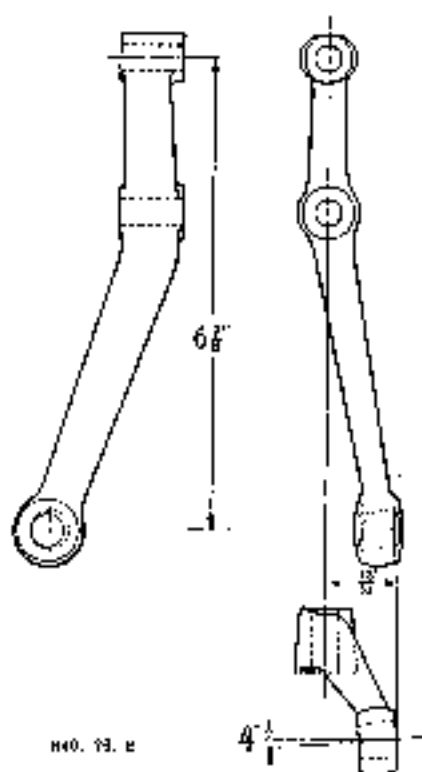

Fig. 7. Checking the alignment of a swivel arm (method 2)
(1) Place a rule along the brake back-plate so that it projects alongside the arm. The distance between the centre of the ball pin seating hole and the rule should be  $\frac{3}{8}$ -in. plus or minus  $\frac{1}{16}$ -in.
(2) Place a straight-edge across the centre of the ball holes used to secure the arm to the swivel axle. The distance between the straight-edge and the lower face of the arm machined face against which the ball pin nut fits—should be  $\frac{3}{16}$ -in. plus or minus  $\frac{1}{16}$ -in. (See Fig. 7.)